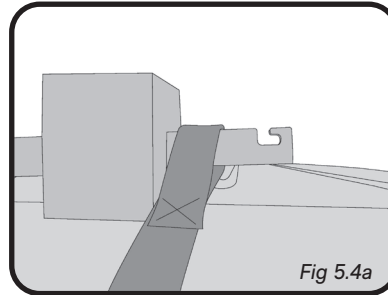

Fig 5.4a
2. Attach the non-adjustable ends of the cargo net to the hooks on each end of the width adjusters on the front of the frame. Attach the loop by first sliding it past the hook and then feeding it into the hook. (Fig 5.4a, b, & c)
5. Attach the adjustable ends of the cargo net to the rear width adjusters (one to each end) by sliding the loop past the hook then feeding it into the hook. (Fig 5.4a, b, & c)